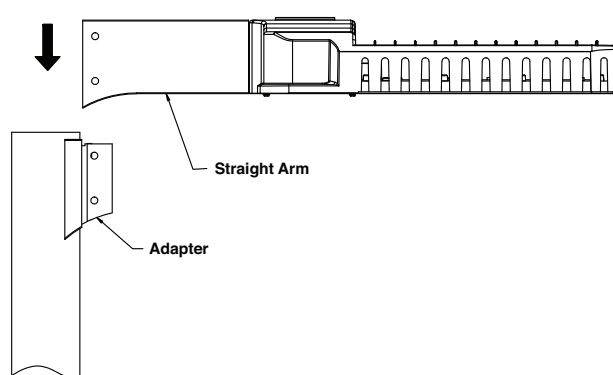

FIG. 3
- Insert the fixture into the adapter (see **FIG. 3**).